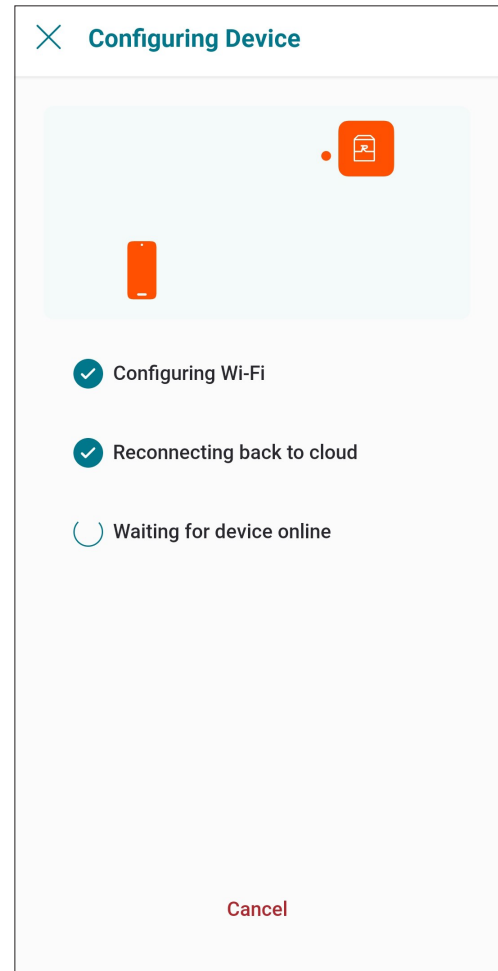

Figure 83. Configuring Device
7. Raymote app will provide the Wi-Fi credentials to your unit. This process may take a few seconds. See Figure 83.